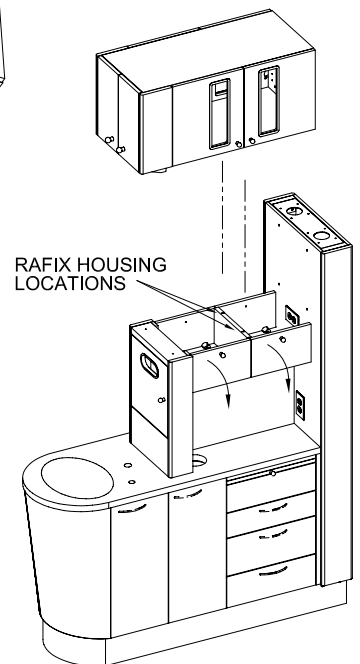

FIGURE 5B
Open the (4) flip down doors mounted to the top of the divider panel then place the upper storage onto the mid section. See Figure 5B. Make sure the (2) Rafix studs insert into the Rafix housings on the top of the flip down door center divider then tighten each one.